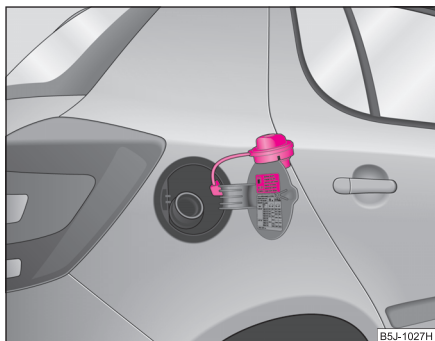

Fig. 140 Filler flap with cap unscrewed
⇒ page 195, fig. 140.
- Unscrew the fuel filler cap anti-clockwise and place the fuel filler cap from above on the fuel filler flap ⇒ fig. 140.